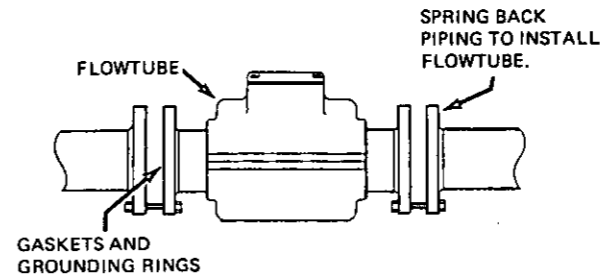

Figure 9
- a. Refer to Figure 9. Spring back piping to allow clearance as necessary to insert flowtube without causing damage to lining.